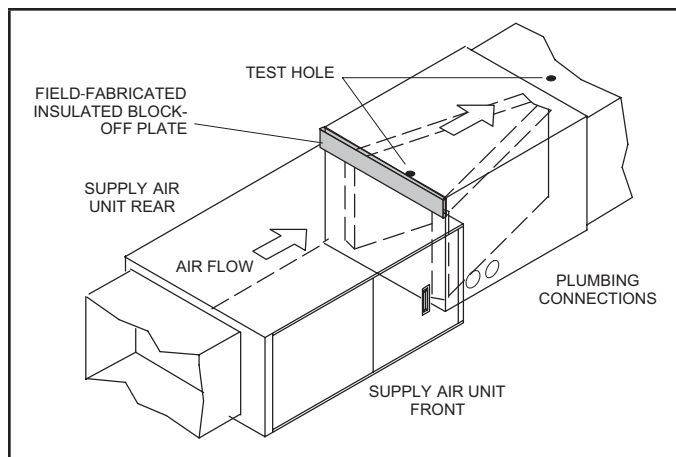

FIGURE 2. D-Width Coil with C-Width Furnace
- 5 - **Applications using CHX35 D-width unit with C-width furnace** – Figure 2 shows an application that includes a D-width coil and a C-width furnace. This application requires construction of an insulated, field-supplied block-off plate to cover the open space on the coil housing